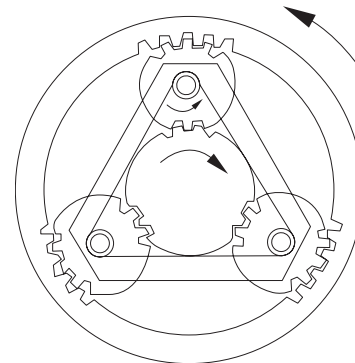

Figure 3-17
2. If carrier (D) is fixed, the motion is transmitted from sun wheel (A) to planetary pinion (B), and is again transmitted by (B) to gear rim (C), to make gear rim (C) rotate. In the structure shown in the figure, the rotation direction of gear rim (C) is opposite to that of sun wheel (A). (See Figure 3-17) (See Figure 3-17)